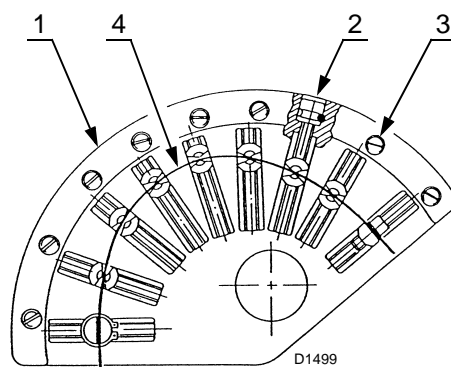

Fig. 32
Use the adjusters 2)(Fig. 32) after loosening the screws 3).
Key (Fig. 32)
- 6 Calibrate the air delivery by adjusting the variable profile cam with the screws 2)(Fig. 32).
- 9 With the optimal adjustment achieved, remember to lock the adjustment screws of the cam profiles by means of screws 3)(Fig. 32).
Progressively adjust the end profile of cam 1) (Fig. 32) by turning the cam adjustment screws 2)(Fig. 32).
For better adjustment repeatability, take care to stop the rotation of the cam unit when the upper bearing that slides on the profile 4)(Fig. 32) is aligned with one of the adjustment screws 2)(Fig. 32).
Screw or unscrew the pre-set screw 2)(Fig. 32) to increase or decrease the air output so as to adjust it to the corresponding gas output.